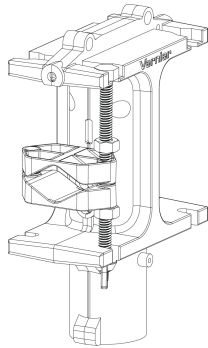

Figure 3
- Attach a wing nut onto the bottom of the bolt so that it is secured to the nacelle (see Figure 3).